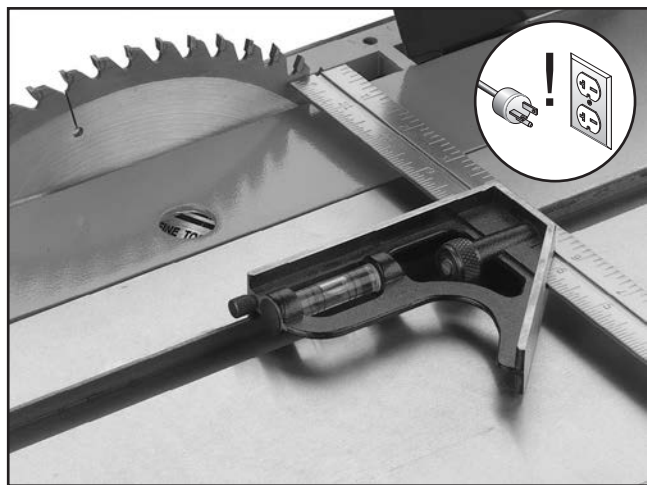

Figure 111. Example of adjusting blade to miter slot.
2. Use an adjustable square to measure the distance from the miter slot to a carbide tip on the blade, as shown in **Figure 111**. Make sure that the face of the adjustable square is even along the miter slot.